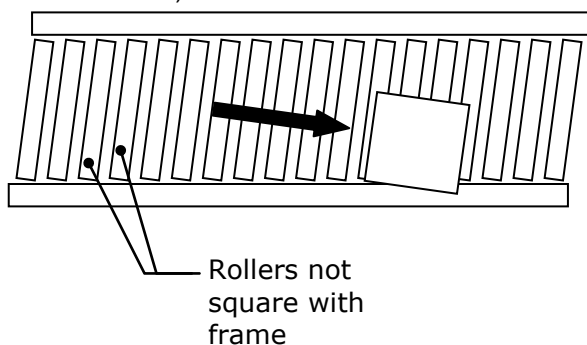

Figure 3.1 "Racked" Conveyor
- Check all bed sections for square. See Figures 3.1 and 3.2. Use a string stretched from opposing corners at edge of bed to aid in straightening conveyor. Ensure that both dimensions are the same. Adjust or shim supports as required. Both sides of the conveyor must be in the same plane (bed not twisted).